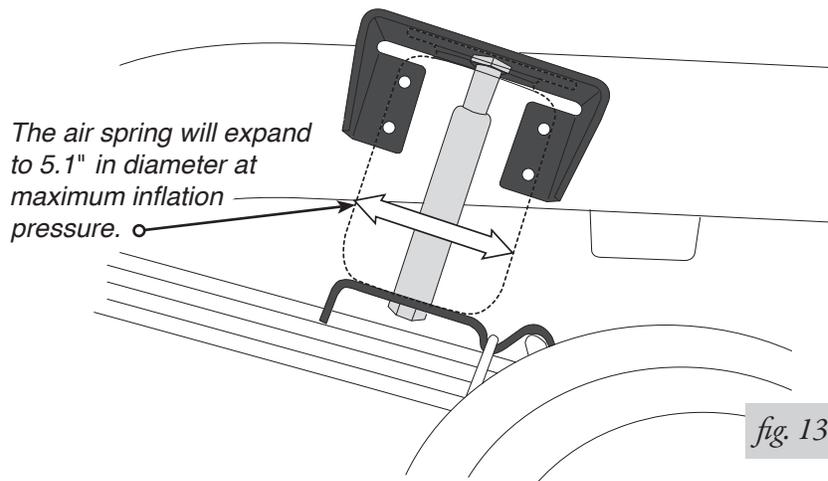

fig. 13
3. The air spring will expand to 5.1" in diameter at maximum inflation pressure. Check horizontally along the shaft of the installation tool for sufficient clearance of 2.50" around the tool (fig. 13). Be sure to check and adjust any fasteners coming through the frame from the inboard side.